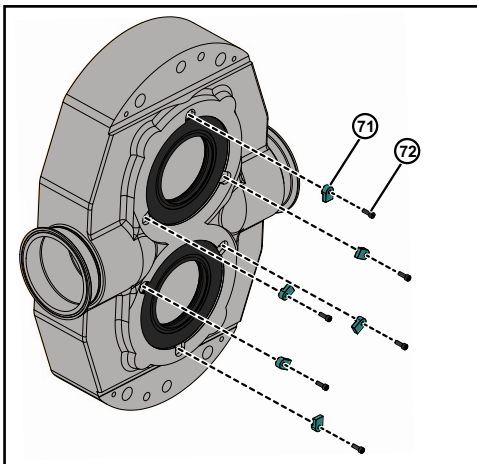

Figure 80 - Remove Screws and Retainer-tab
2. Remove all the retainer-tab bolts (72) and retainer-tabs (71) from the pump body, as shown in Figure 80. This is *applicable for model 180-370*.